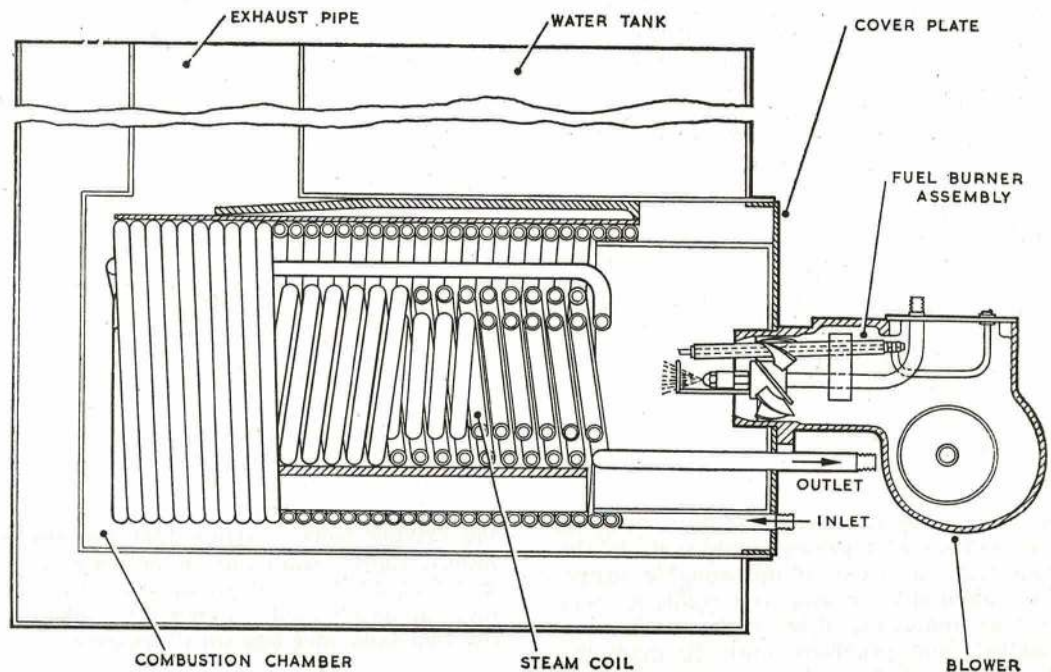

Fig. 10. COMBUSTION CHAMBER AND STEAM COIL
30. **Combustion Chamber and Steam Coil.** The combustion chamber, which is a steel cylinder located inside the water tank, accommodates the steam coil (Fig. 10). The steam coil is a continuous length of steel tubing which is wound into three coils and positioned longitudinally inside the combustion chamber. The inlet end of the coil connects with the delivery pipe from the water pump, and the outlet connects with a Y-union mounted on the side of the chassis. When the plant is in operation, atomized fuel is sprayed by the jet assembly into the combustion chamber, where it is ignited by the high tension electrode. The heat generated is used to heat the coil, and to convert